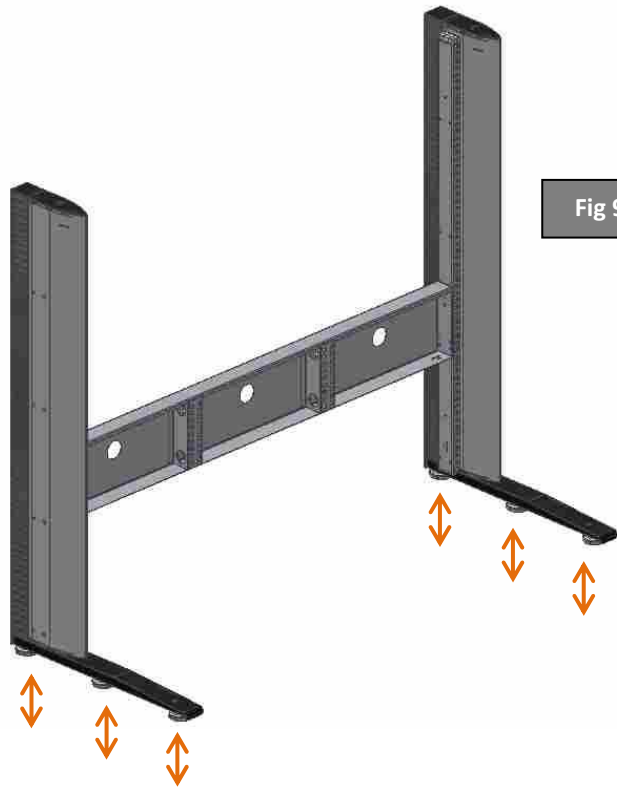

Fig 9
STEP 6 – Level the whole structure using the **levelers** of the **sides** (Fig.9).